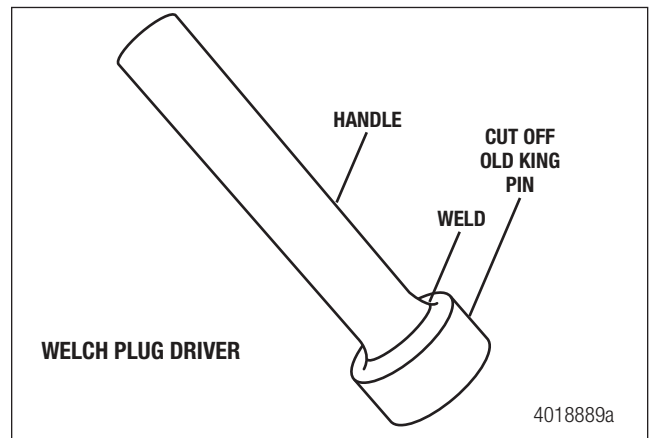

Figure 7.6
**NOTE:** The welch plug needs to be installed by a tool approximately 90% its diameter. If an appropriate tool is not available, one can be made by cutting off the rounded end of an old king pin and attaching it to a handle or drift. Figure 7.6.